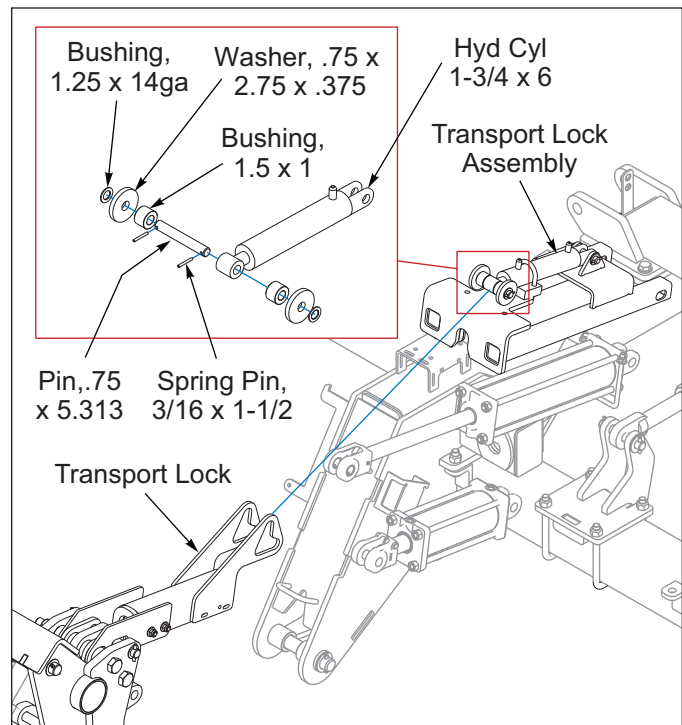

Figure 2-13: Transport Lock to Transport Lock Assembly Installation
9. Connect the Transport Lock to the Transport Lock Assembly. Remove the existing Transport Lock Assembly hardware located at the rod end of the 1-3/4 x 6 Hydraulic Cylinder. Place the Transport Lock between the .75 x 2.75 x .375 Washers and secure with .75 x 5.313 Pin and 3/16 x 1-1/2 Spring Pin. **See Figure 2-13.**